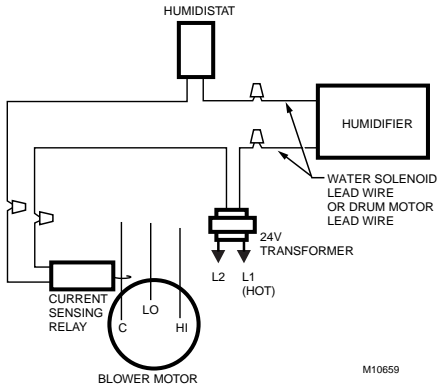

Fig. 2. Typical hookup diagram of current sensing relay with a humidifier.
1. Connect one relay leadwire to one 24 Vac transformer terminal. See Fig. 2.